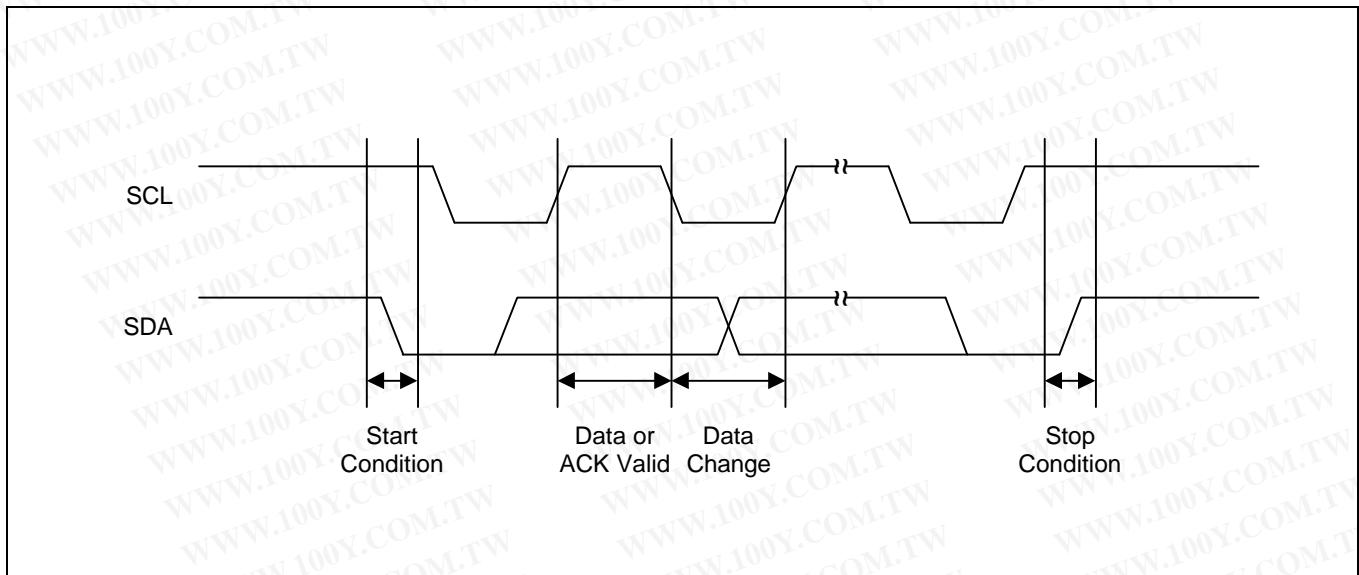

Figure 4-7. Data Transmission Sequence
- **Stop condition:** A stop condition is initiated by a Low-to-High transition of the SDA line while SCL remains in High level. All bus operations must be completed by a stop condition (see Figure 4-7).